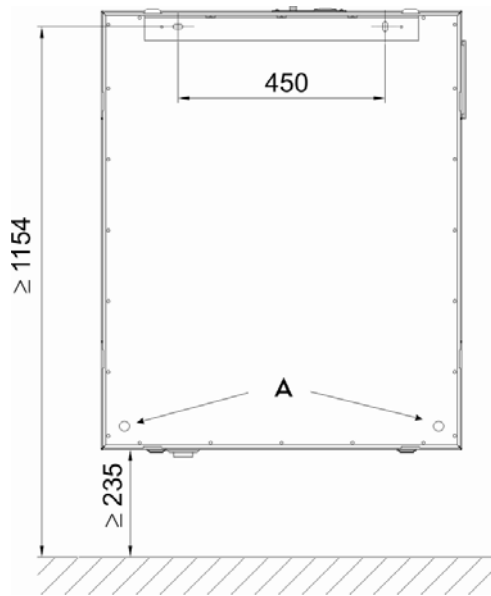
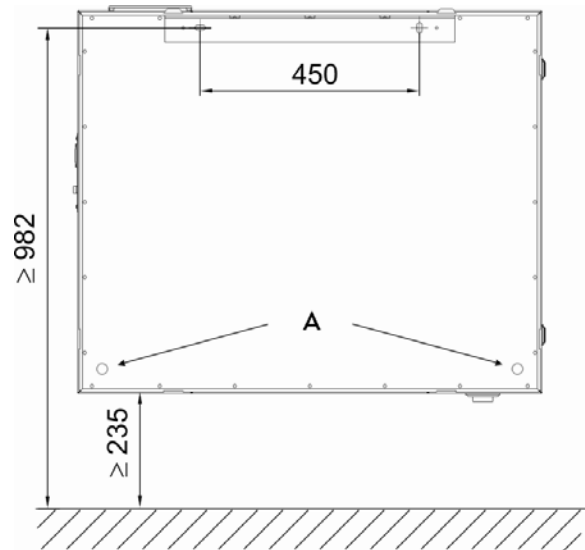

Figure 16: Vertical wall mounting
Figure 17: Horizontal wall mounting
- Glue each piece of the enclosed, self-adhesive rubber buffer **A** in the bottom corner region on the rear panel of the device as shown in Figure 16 and Figure 17.